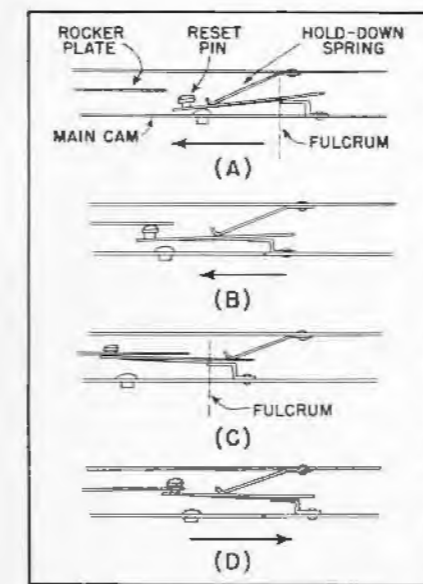

Fig. 3. Four phases in the operation of the resetting device.
Illustrations (A) (B) (C) (D) in Fig. 3 show four phases of the operation of the resetting device located between the main cam and inside surface of the cam box. The resetting action can be observed by viewing the cam box assembly from the end nearest the arm pivot post. At the beginning of the change cycle the cam moves in a direction shown by the arrow in illustration (A). The reset pin, moving with the cam, should travel beneath the rocker plate, illustration (B). Near the end of the initial cam stroke, the reset pin should snap into the enlarged opening in the rocker plate, illustration (C). With the return stroke of the cam, the reset pin should travel in the narrow slot of the rocker plate, illustration (D) and at the very end of the stroke drop out of the slot and resume position as shown in illustration (A).